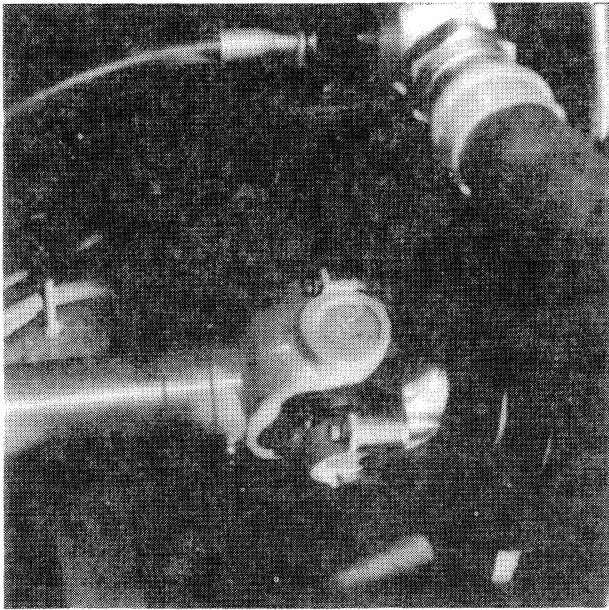

FIGURE 2-13: PTO Driveshaft Removal
- Disconnect PTO driveshafts from splitter box (Figure 2-13).
7. Connect PTO driveshaft. Ensure it is correctly phased (Figure 2-13). Torque journal strap cap-screws to 35 N.m (26 lbf ft).